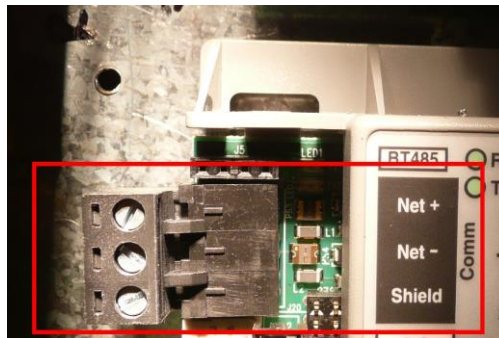

Fig. 1
2. For BACnet MS/TP, N2, and Modbus, a shielded twisted pair network connection needs to be connected to the RS-485 port in the upper left hand corner of the controller. Please refer to the connector shown in Figure 1.